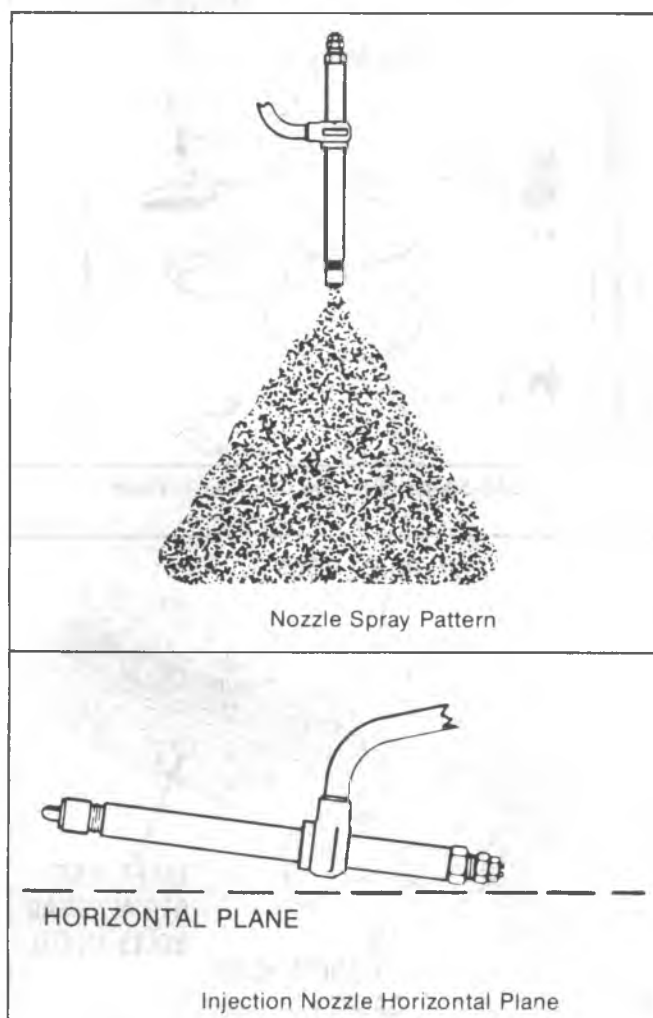

Fig. 6A6-49--Nozzle Testing
Loosen connector nuts and reposition nozzle tip slightly above horizontal plane, as shown in Figure 6A6-49.
1. Remove nozzle by applying torque to the largest nozzle hex (Fig. 6A6-47a).